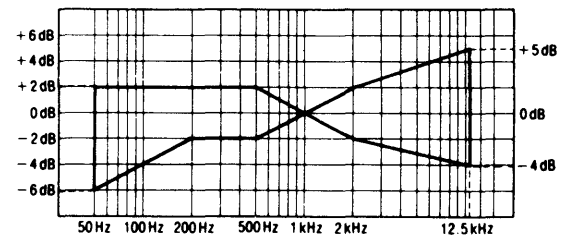

Fig. 9
5. Repeat steps 3 and 4 above for CrO2 blank test tape (QZZCRX) and Metal blank test tape (QZZCRZ), in these cases raising the upper end of the test signal frequency range to 12.5kHz. Verify that the signal levels at the test frequencies fall in the ranges specified in Fig. 9 with respect to the reference signal level.